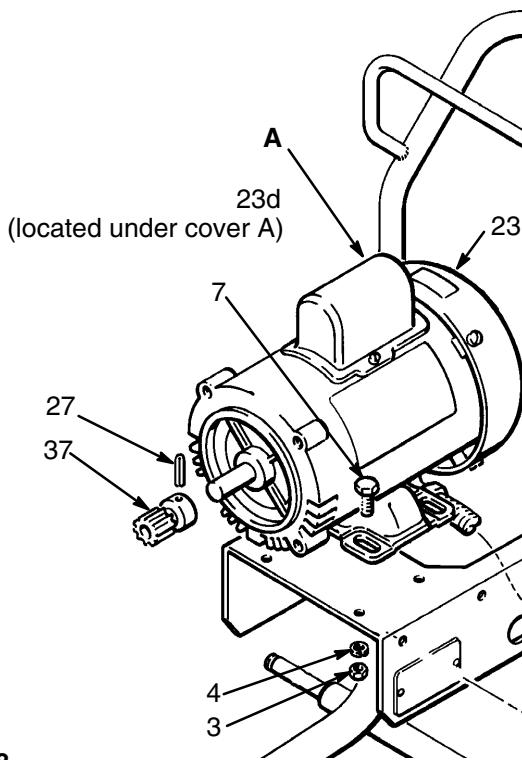

Fig 18
1. Remove the cover (A) of the capacitor . See Fig 18. Remove the flag connectors from the old capacitor (23d). Connect the flag connectors of the new capacitor and replace the cover.